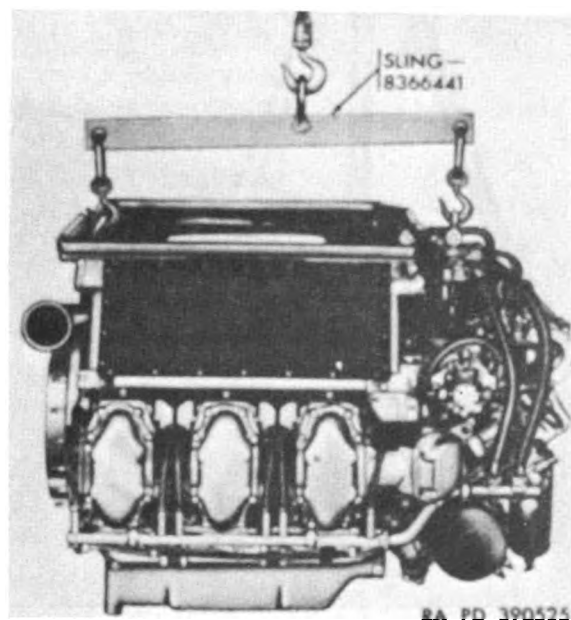

Figure 21. Lifting engine.
- (1) Lift engine using sling 8366441 (fig. 13) hooked to engine lifting eyes as shown in figure 21.